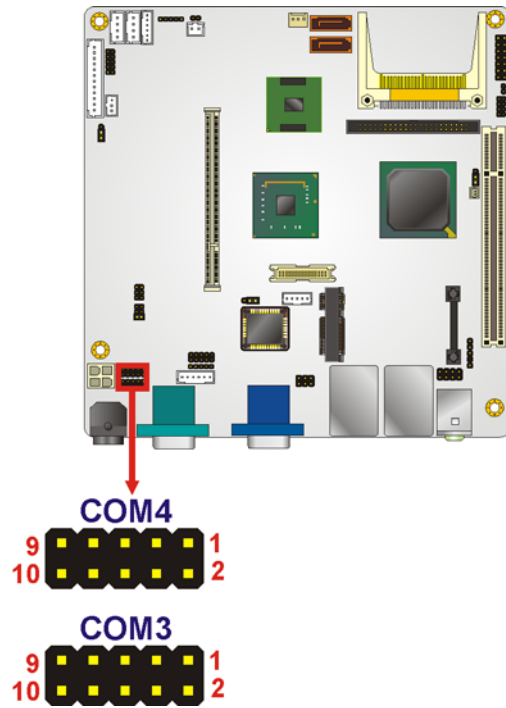

Figure 4-18: RS-232 Connector Pinout Locations
- CN Location:** See **Figure 4-18**